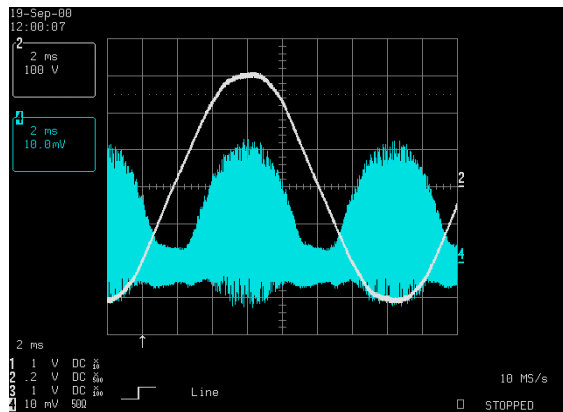

**Figure 6: Input Voltage & Current**
In most AC to DC power converters it is necessary to have the circuit act as a pure resistive load to the AC input line voltage. To achieve this, active power factor correction (PFC) can be implemented which, for an AC input line voltage, produces an AC input line current. It is also important to produce a sinusoidal input current which has a low total harmonic distortion (THD) and a high power factor (PF) (See Figure 6).